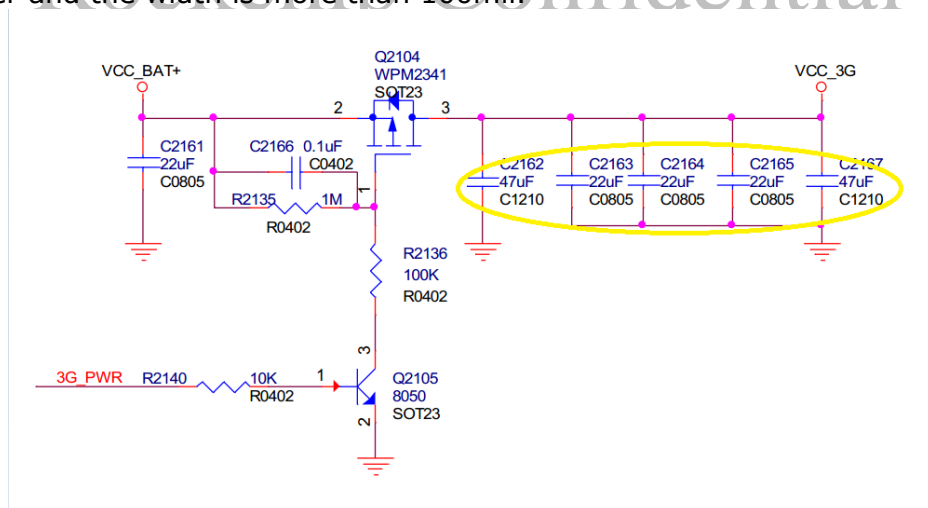

Figure 22-4
- The transient current of 3G module transmits at the maximum power will up to 1.8A, so the part of power supply is recommended to use DC/DC of high current or MOS of low ESR. And the reservoir capacitors of large capacity value (the circle in Figure 22-4) please be placed close to module pin. The traces try to use pour copper and the width is more than 100mil.